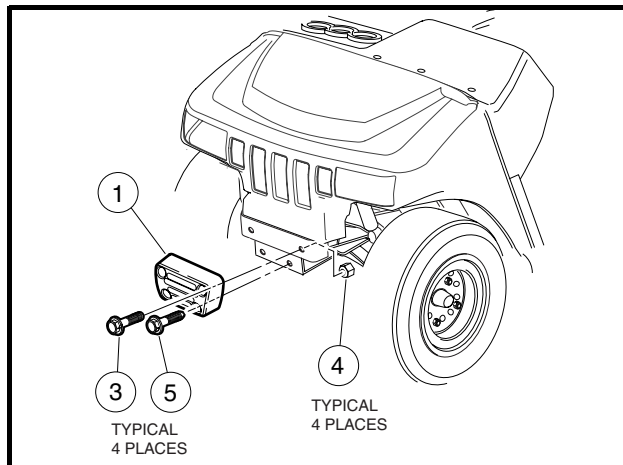

Figure 4-1 Front Bumper
1. Remove bolts (3) and (5) and lock nuts (4) and pull bumper (1) from vehicle frame (**Figure 4-1**, Page 4-3). See following **WARNING**.